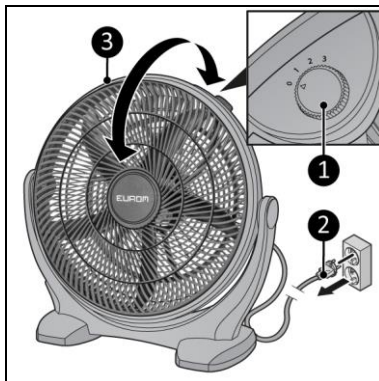

Figure 5
1. Turn the control knob (Figure 5, pos. 1) to the desired setting:
1. Make sure the control knob is in the OFF position (Figure 5, pos. 1).
2. Push the main body (Figure 5, pos. 3) carefully in the desired position.
2. Disconnect the power plug from the power outlet. (Figure 5, pos. 2)